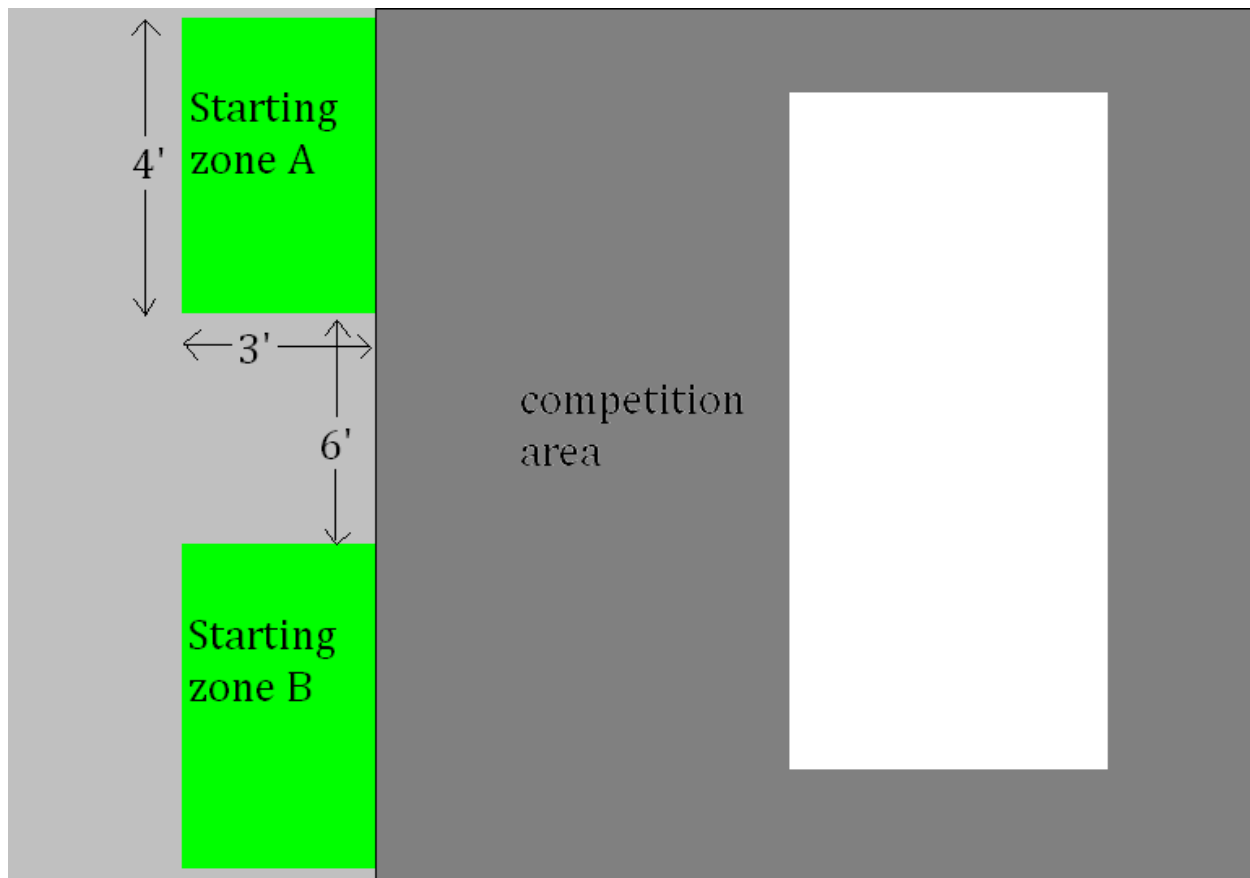

Figure 2: Detailed depiction of launching zone.
**3.2 Starting Zones.** Starting zones are located on one side of the contest area, as shown, and will measure 4 feet wide by 3 feet deep. They will be placed symmetric to the center line, with 6 feet in between the two teams' starting zones. At the beginning of the set-up period, team members must be within a 3-foot radius of their starting zone, and remain in that region until the beginning of that heat's competition period (after the vehicles have entirely departed from the starting zone). All vehicles being used in the heat must begin in the starting zone. Zone geometry is detailed in Section 4, Figure 2.
**3.4 Finishing Zones.** To gain extra points, all of team’s vehicles must finish back in their starting zone. For those points, the entirety of every vehicle must be within the starting zone, at the discretion of the contest judge. Details are given in Section 5 and in Figure 2.
- Two starting zones (one for each team) will be available for each head-to-head heat of the competition. They will be placed 6 feet apart, symmetrically located about the midline of the competition zone (see Figure 2). Teams will be assigned to their specific starting zone (i.e., the left or the right zone) by the contest judges.
- Each team’s starting zone will consist of a box with dimensions given in Figure 2. The horizontal dimensions will be indicated by tape or chalk on the sidewalk surface (with the permissible area including the tape itself). No part of a vehicle may exceed 10 feet above the contest terrain at any time before or during the contest. The vertical height constraint will be checked by the contest judges as necessary at the beginning of the heat.